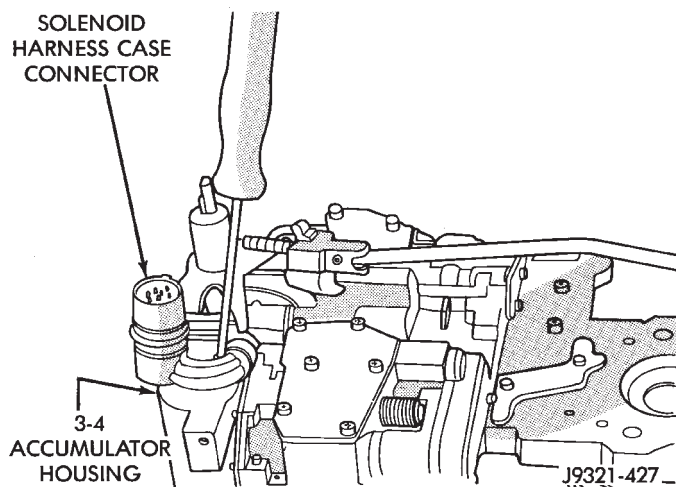

Fig. 38 Solenoid Harness Case Connector Shoulder Bolt
(1) Remove fluid filter.
(2) Disconnect wires from governor pressure sensor and solenoid.
(3) Remove screws attaching governor body and retainer plate to transfer plate.
(4) Remove retainer plate, governor body and gasket from transfer plate.
(5) Disconnect wires from governor pressure sensor, if not done previously.
(6) Remove governor pressure sensor from governor body. Sensor is retained in body with M-shaped spring clip. Remove clip with small pointed tool and slide sensor out of body.
(7) Remove governor pressure solenoid by pulling it straight out of bore in governor body. Remove and discard solenoid O-rings if worn, cut, or torn.
(8) Remove small shoulder bolt that secures solenoid harness case connector to 3-4 accumulator housing (Fig. 38). **Retain shoulder bolt. Either tape it**